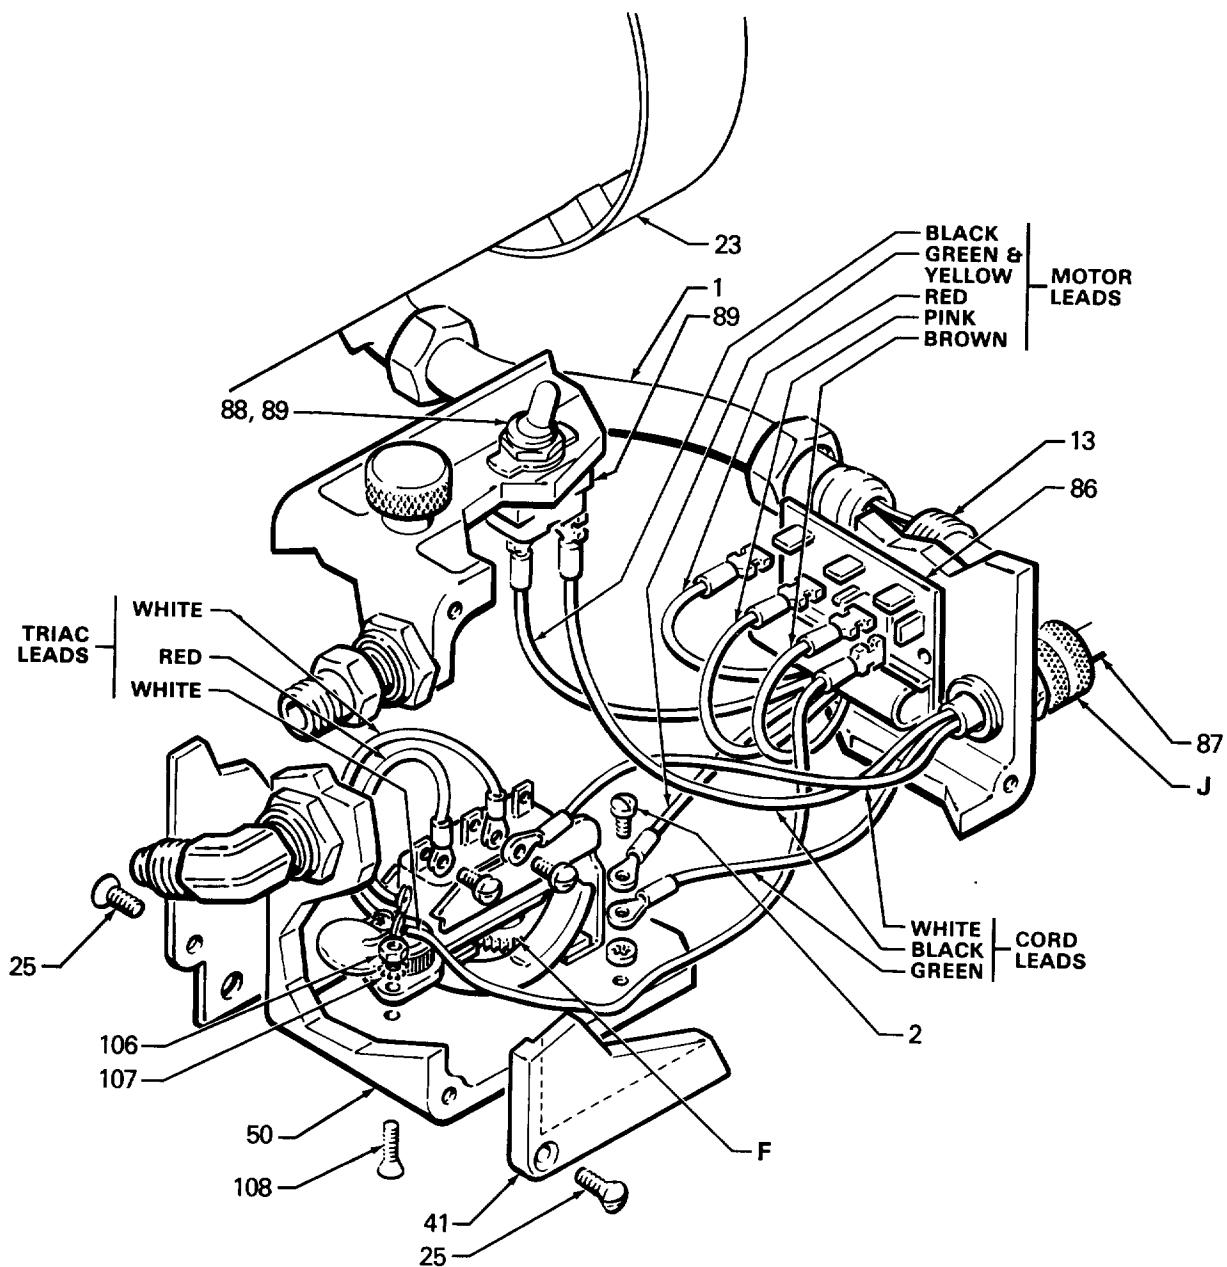

Fig 24.
Remove screws (25) and cover (41) from pressure control (50). See Fig 24.
Disconnect red, pink and brown motor leads from circuit board (86). Disconnect green and yellow motor lead from grounding screw (2), and black motor lead from toggle switch (89). See Fig 24.
Unscrew nut on end of conduit (1) from connector (13). See Fig 24. Pull pressure control (50) away from conduit while carefully guiding wires through connector (13).
Loosen knurled part of power cord strain relief (J), and unscrew it from pressure control. Slide strain relief up on power cord to provide clearance, and unscrew conduit connector (13). See Fig 24.
If the circuit board (86) is all that needs to be replaced in the pressure control, remove the screws (25) and the front cover (41). See Fig 24. Pull the board out carefully, just far enough to reach the wire terminals. Unsnap the wires and finish removing the board.
Position the new card at the control so the wire connectors are at the top. Following the color coded diagram in Fig 24, snap the wires onto the board. Carefully guide the wires back into the control, making sure they don't get caught on anything, then slide the new board into place. Check the pressure control calibration. See page 22.